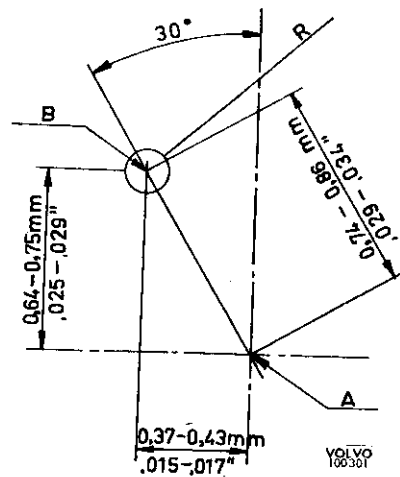

Fig. 16. Eccentricity for rear lining (bonded type) for front wheels
The bonding procedure varies with different makes of oven and testing units, so that a generally applicable description cannot be given. Therefore follow carefully the recommendations of the manufacturer. When fitting the lining, make sure that it does not come obliquely on the shoe and that it is placed as shown in Figs. 16 to 19. On the rear brake shoes (secondary shoes) of the front wheels 1/4" linings should be fitted and on the other shoes 3/16" linings. When bonding, only bonding compound specially made to withstand high temperatures arising during long braking must be used.
As the rear brake linings for the front wheels should be ground eccentrically, a grinder is required for this which is adjustable for this type of lining. As there are different makes of such machines, the grinding procedure will depend upon the design of the grinder. Fig. 16 shows how much the pivoting centre should be displaced in relation to the brake shoe centre for grinding the eccentric lining. For other types of linings, the pivoting centre coincides with the centre of the brake shoe.
2. Fit the rear packing on the plunger (8). Dip the plunger and packing (9) in brake fluid and press them into the cylinder. Place the stop washer (7) in position and fit the locking ring (6).
3. Place the thrust rod (4) in the plunger (8) and pull the rubber cover (5) over the shoulder on the master cylinder. Fit the three-way union (1) with brake contact.
4. Check that the equalizing hole is clear by pushing a 0.5 mm (0.02") wire through it (Fig. 23). It should then be possible to press the plunger in about 0.5 mm (0.02") (A, Fig. 16) before the wire becomes caught. Be careful to avoid damaging the packing. If the equalizing hole is not clear, this usually means that the master cylinder has been incorrectly assembled.